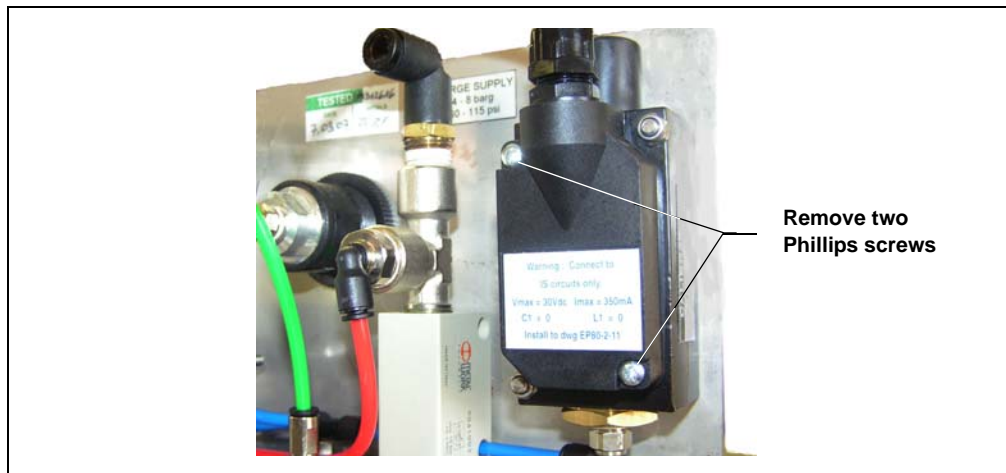

Figure D-4. Remove Cover on Black Box
7. On the top of the AE, remove the cover on the purge control unit's black box by removing two Phillips screws (see Figure D-4).